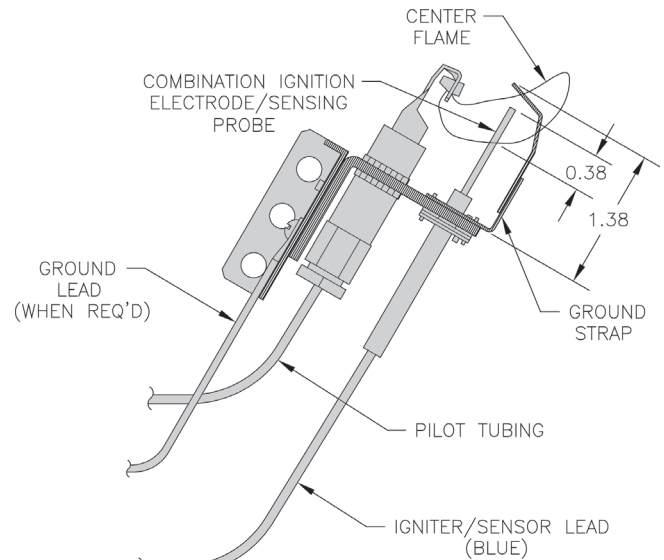

Figure 41: Pilot Burner Flame
- J. Check pilot burner flame.** See Figure 41. Flame should be steady, medium hard blue enveloping 3/8 to 1/2 inch of sensing probe.